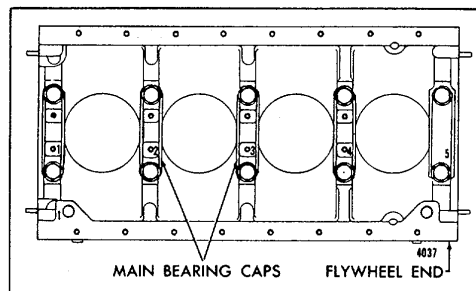

Fig. 14 - Typical Cylinder Block Markings
NOTE: Bearing caps are numbered to correspond with their respective positions in the cylinder block. It is imperative that the bearing caps are reinstalled in their original positions to maintain the main bearing bore alignment. The number of the front main bearing cap is also stamped on the face of the oil pan mounting flange of the cylinder block, adjacent to its permanent location in the engine as established at the time of manufacture. The No. 1 main bearing cap is always located at the end opposite the flywheel end of the cylinder block (Fig. 14).
2. If a new service replacement block is used, stamp the engine serial number and model number on the upper rear corner of the In-Line block. Also stamp the position numbers on the main bearing caps (Fig. 14) and the position of the No. 1 bearing on the oil pan mounting flange of the block.